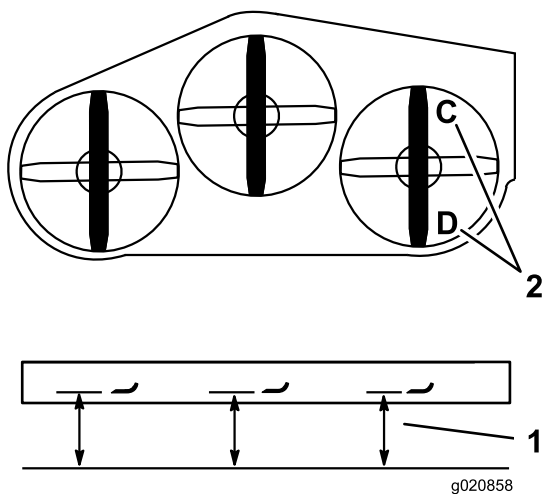

Figure 80
1. Position the right blade front-to-rear (Figure 80).
2. Measure the right blade at the **C** location, from a level surface to the cutting edge of the blade tip, and record this measurement (Figure 80).
3. Measure the right blade at the **D** location, from a level surface to the cutting edge of the blade tip, and record this measurement (Figure 80).
Note: The mower blade should be 6 to 10 mm (1/4 to 3/8 inch) lower at position **C** than at position **D** (Figure 80). If it is not correct, proceed to the following steps.
2. Position the right blade front-to-rear (Figure 80).